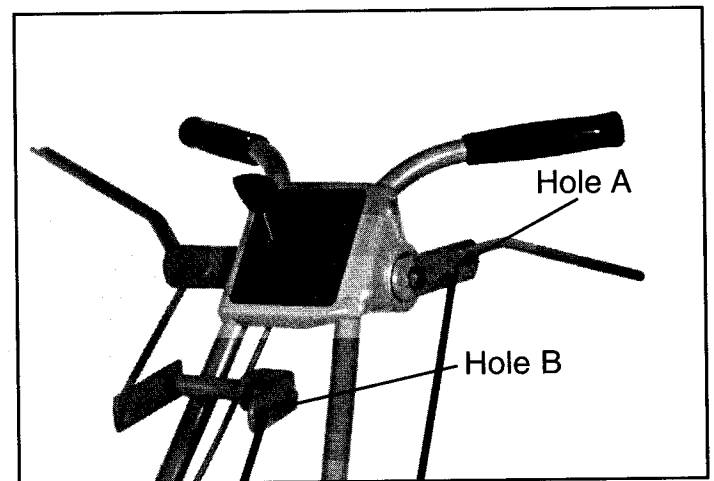

Fig. 2
1. Install 1/4" drive control long rod in drive control lever at hole A (see Fig. 2, 3).
1. Install 1/4" clutch control rod in clutch control lever at hole B (see Fig. 2, 3).